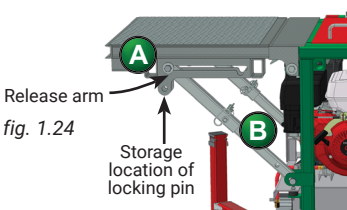
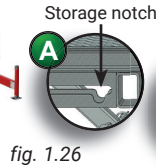
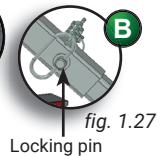

fig. 1.24
fig. 1.26
fig. 1.27
- 1- Make sure the motorized unit is at base level. Remove the locking pins (2) on the supports (see "A" in fig. 1.24 and fig. 1.26).
- 3- Once the extension is fully deployed, insert a locking pin in each of the supports to secure the extension (see "B" in fig. 1.24 and fig. 1.27).
- 1- Make sure the motorized unit is at base level. Slightly lift and support the extension. Remove the locking pins from the supports (see "B" in fig. 1.24 and fig. 1.27).
- 2- Lower the extension carefully until each pivot bolt is in the storage notch (fig. 1.26).
- 3- Store each locking pin in its storage location (fig. 1.27).